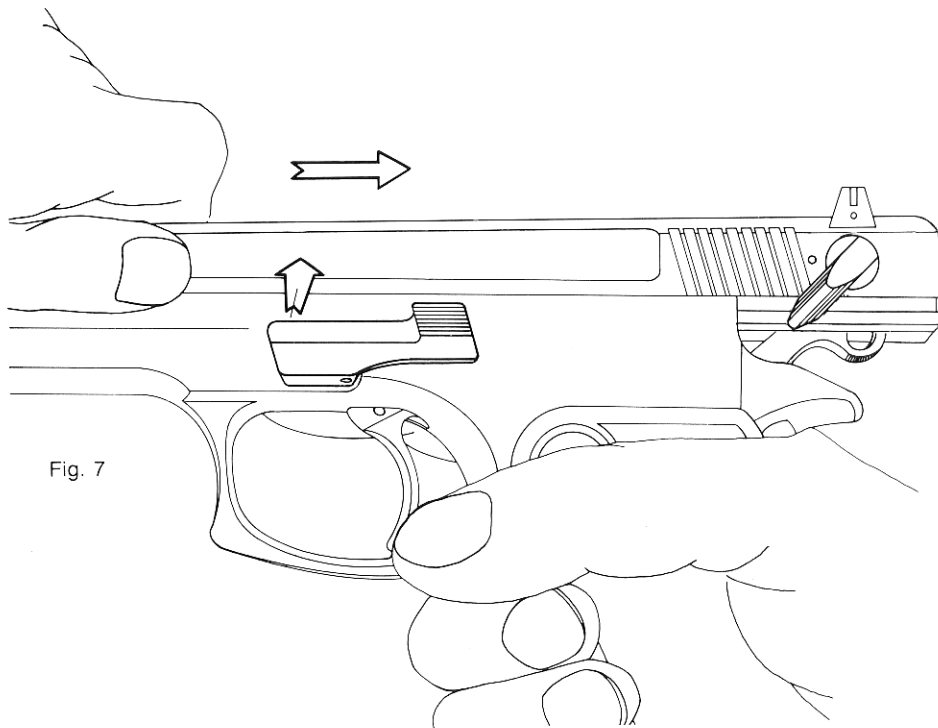

Fig. 7
3. Cock the hammer by hand and pull the slide back all the way, at the same time press the index finger of the right hand against the end of the slide stop shaft protruding from the opposite side of the frame above the trigger guard, until the slide stop is partially extracted. With the thumb and index finger of the left hand grasp the slide stop and pull it out, at which moment the slide will snap forward on its guide (see fig. 7).